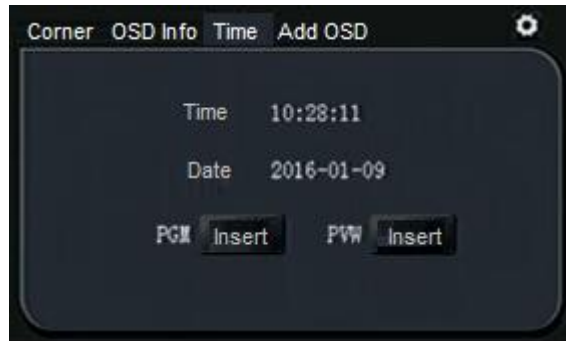

Figure 28 Time setting
**3)Time setting-**As shown in Fig. 28, the real-time time can be inserted in the PGM, PVW, and PGM2 channels in the single-conduction mode and the dual-conduction mode, respectively. When the user feels that the previous OSD information is inserted and cannot fully meet the requirements, in the additional OSD custom information loaded into the video channel.